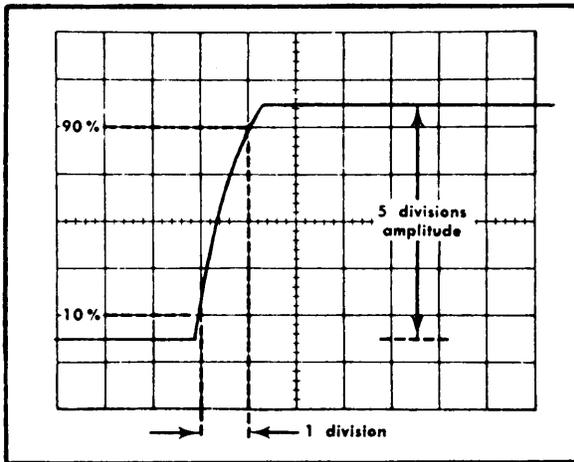

Fig. 5-19. Idealized waveform showing maximum allowable calibrator risetime at sweep rate of 1 μ s/division.
- f. CHECK-CRT display for one division or less between the 10% and 90% points on the leading edge of the calibrator waveform (one microsecond, or less, risetime); see Fig. 5-19